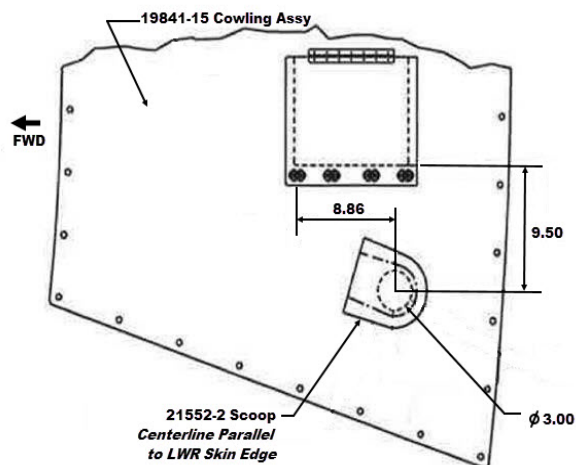

Figure 45-19
2. Modify the existing Cowling Skin Assy by cutting a 3-inch diameter hole per the dimensions shown in Figure 45-19. This hole is required to allow installation of the 21552-2 Scoop.